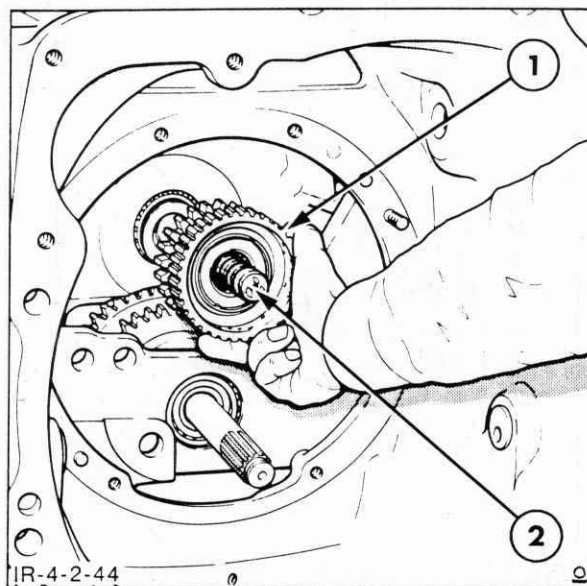

Figure 4-137
4. Remove the reverse idler input gear, thrust washer, needle bearings and shims from the rear input shaft, Figure 4-137, if not removed with the clutch housing.